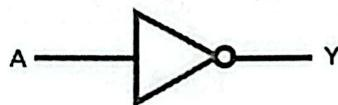
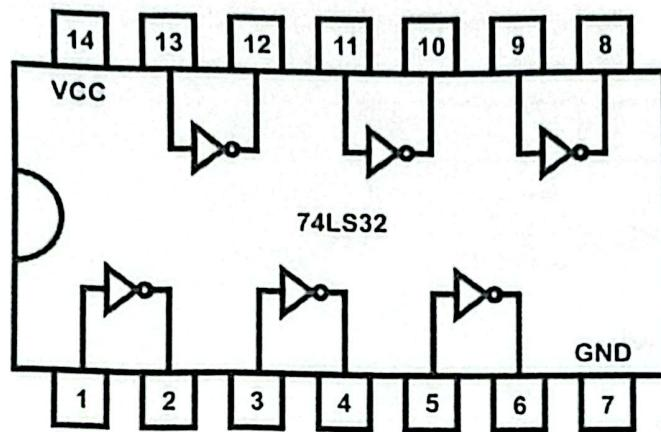

Fig. 4.1
Fig. 4.2
4. Wire the circuit according to the diagram in figure 4.1 by consulting NOT gate IC's data sheet in fig 4.2.